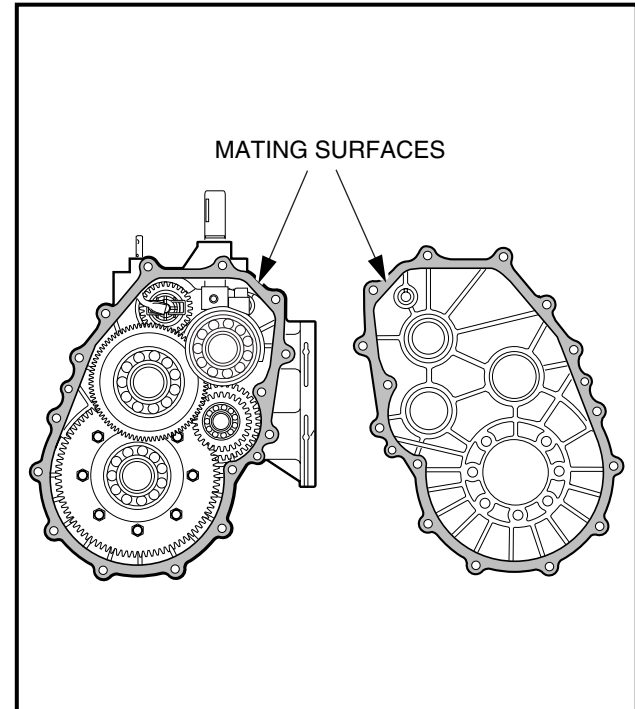

Figure 19-56 Prepare Mating Surfaces
9. Apply a continuous bead of Three Bond No. 1215 (CCI P/N 101928701) sealant to the mating surface, around the complete profile of the right (passenger side) case (**Figure 19-56, Page 19-26**). See following **CAUTION**.